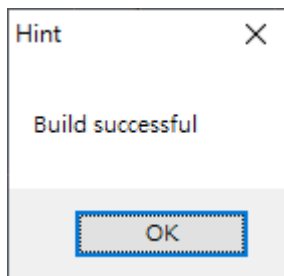

Figure 4.13
- After completing all IC basic settings and function settings, click the “Build Project” button to build the entire project file, after which a dialog box of build successful will pop up, as shown in figure 4.13.